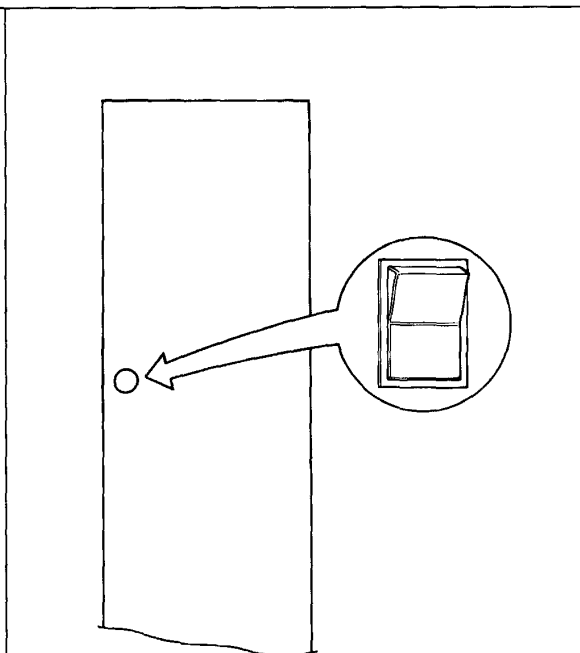

Figure 3 Circuit breaker (rear view)
- 5.2 Circuit breaker (figure 3)